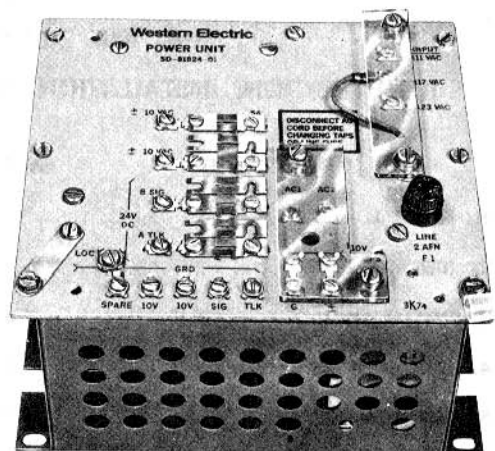

Fig. 2—19C3 Power Unit (Rack Mounted)
19C3—19A3 with hardware for mounting in a Key Service Unit or relay rack (see Fig. 2).
**4.08** The 19C3 and 20C3 power units are equipped with a spare ground terminal provided for grounding one side of a supplementary 18 VAC supply, when required for use in the system. (Fig. 2.)
**5. MAINTENANCE 20B1 (MD) POWER UNIT (20A1 with Hardware and Cover for Wall Mounting)**